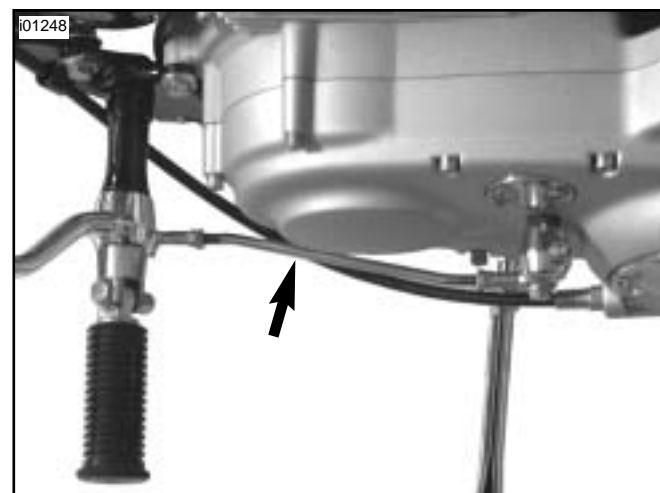

Figure 4. Make Sure Shifter Rod is Positioned as Shown
8. Assemble tie rod ends (12) and jam nuts (6) to shift rod (9) and connect assembly to shift lever pedal and shift lever with washers (5) and bolts (1). Make sure that the bends in the shift rod are positioned properly as shown in Figure 4.